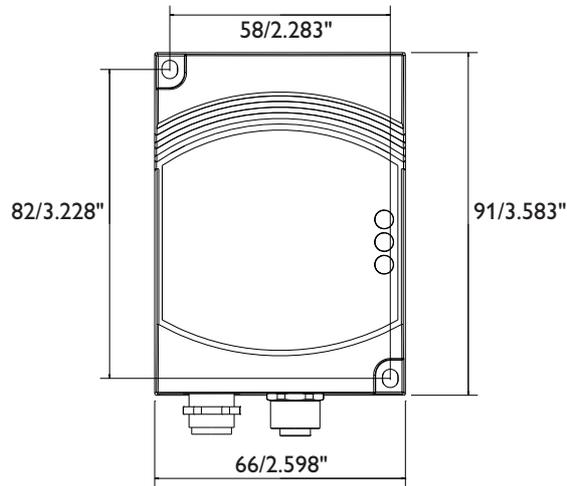

Figure 1-2 Housing dimensions and drill hole spacing for the device in millimeters (inches)
1.6.1 Mounting the FL BT EPA (MP) on a level surface
Mount the FL BT EPA (MP) on a level mounting surface and secure it with two screws (e.g., 84-M3 X 35-8.8 cylinder head screws). For the required drill hole spacing, please refer to Figure 1-2 on page 6.
These holes can be used to fix the BTAP on a level mounting surface with two screws (e.g., 84-M3 X 30-8.8 cylinder head screws) (for drill hole spacing, see Figure 1-2 on page 6).